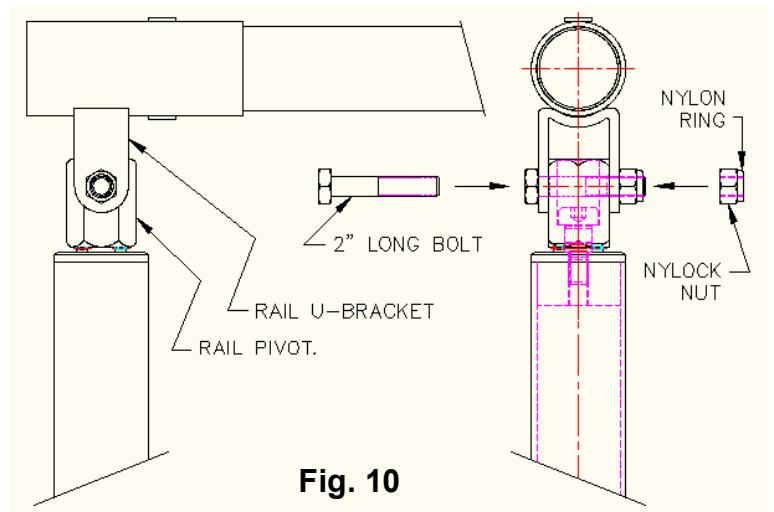

Fig. 10
3. Working with one (1) Adjusting Tube at a time, place the rail pivot, which is located at one end of the Adjusting Tube, into the U-bracket. **See Fig. 10** below. The locking holes in the Adjusting Tube must face to the outside (end of the rail).
5. Tighten the Nylock & bolt snug, but don't over tighten. A small space between the U-brackets and rail pivot need to allow for the bar to flex. **See Fig. 10** below.